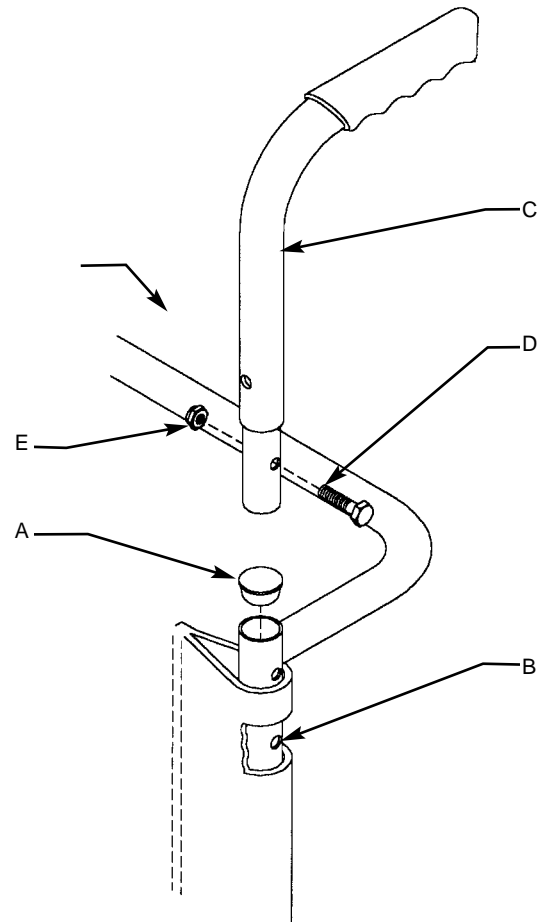

Figure 1
To fit the push handles remove the end caps (A) from the backrest assembly (B) and insert the push handles (C) into the backrest assembly. Pass the set screw (D) through the backrest assembly and push handle. Attach the nut (E) and tighten until it is a snug fit against the backrest assembly (see FIG 1).